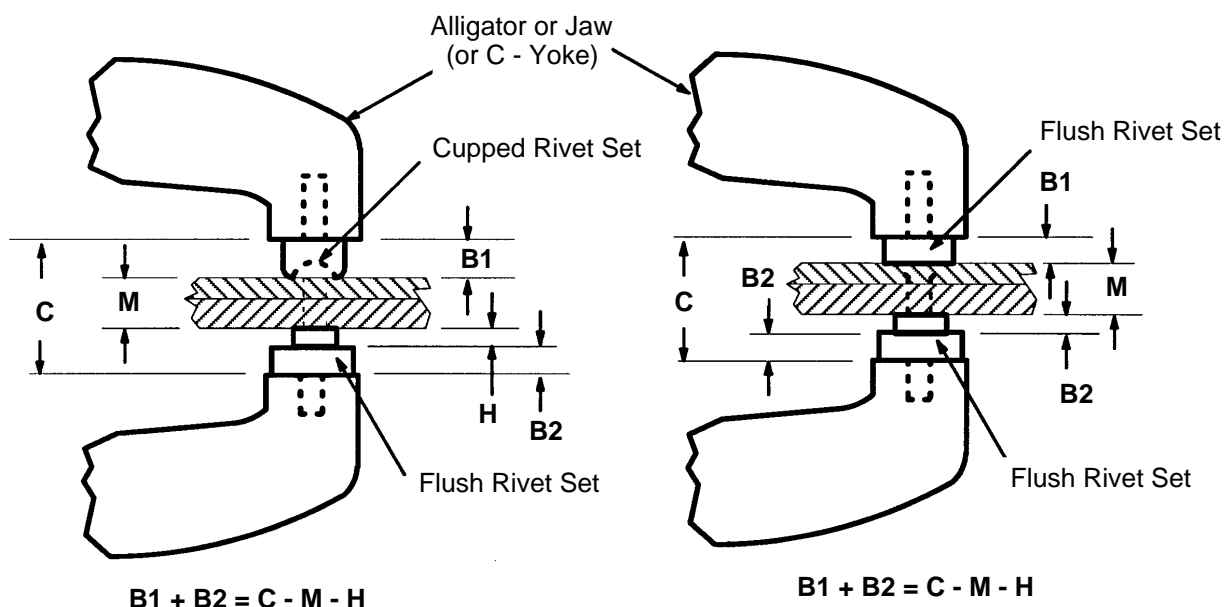
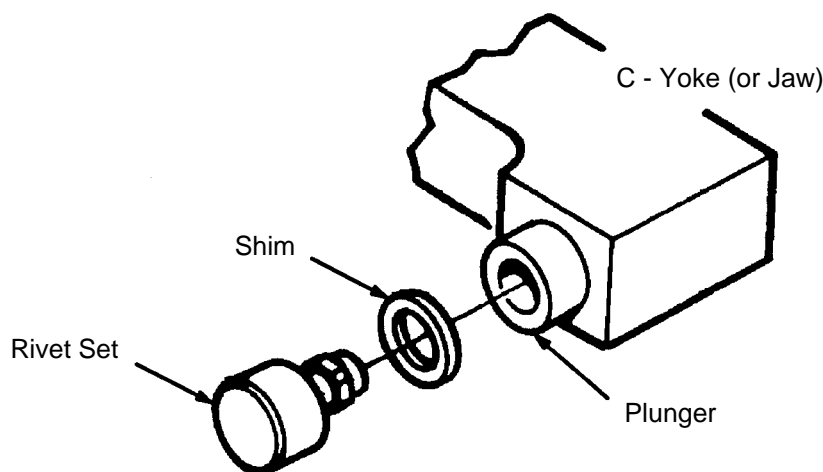

Figure 3 - Rivet Set Length Selection
Figure 4 - Rivet Set and Shim
- 5.2.2 Rivet upset (i.e., rivet shop head) is controlled by the distance between the rivet set faces at full stroke. Since the stroke (i.e. closed height) of the squeezer is fixed (see Figure 3), the distance between the rivet set faces can be adjusted to allow for various rivet lengths, by selecting different length rivet sets; for additional adjustments, using spacer shims (see Figure 4 and Table 6).
- Step 2. Select the applicable rivet sets according to Table 2, 3 or 4, for the diameter of rivet and style of manufactured rivet head to be installed. When squeeze riveting universal or modified universal head rivets, use one cupped rivet set on the universal head (see Table 2) or modified universal head (see Table 3) and one flush (flat) rivet set (see Table 4 or Table 5) on the shop formed head. When squeeze riveting flush head rivets, use a pair of flush (flat) rivet sets. The total length of the bodies of the two rivet sets ($B1 + B2$) should equal the closed height dimension of the yoke (C) minus the total thickness of the material being riveted (M) and the height of the finished rivet head driven by the flush set (H) (see Figure 3).
- Step 3. Select the length of the rivet set required to produce the correct shop head from Table 4 or 5, as required. If required, shim rivet sets to produce correct shop formed heads (see Table 6 & Figure 4). As a general rule, the length of the undriven rivet shall be one and a quarter to one and a half times the shank diameter (i.e., $1.25D - 1.5D$) plus the thickness of the material in which the rivet is to be installed.